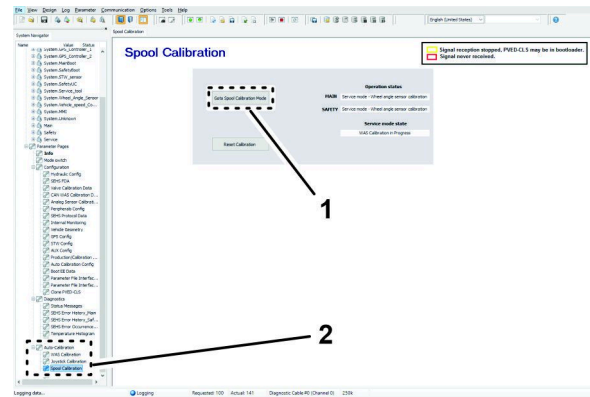

Figure 152
2. On your laptop computer, click to the SPOOL CALIBRATION icon (Figure 152).
3. On the spool calibration page, click the GOTO SPOOL CALIBRATION MODE icon (Figure 152).